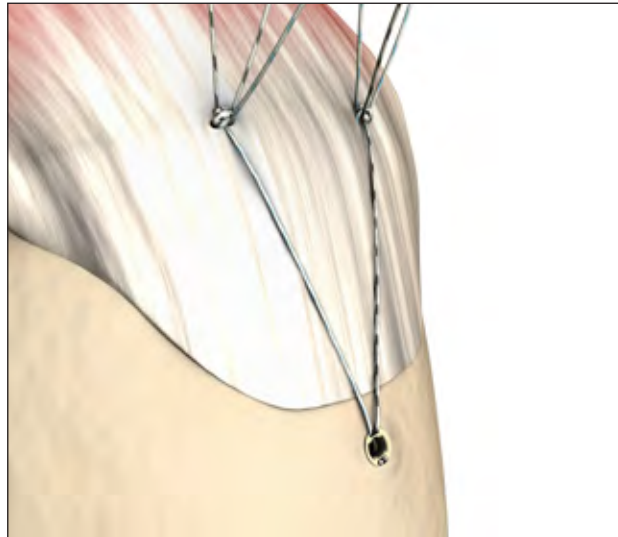

Figure 12
11. Slowly disengage the inserter from the suture anchor and discard the insertion device. When no further suture tension adjustments are desired, cut the excess suture to complete the repair (Figure 12).